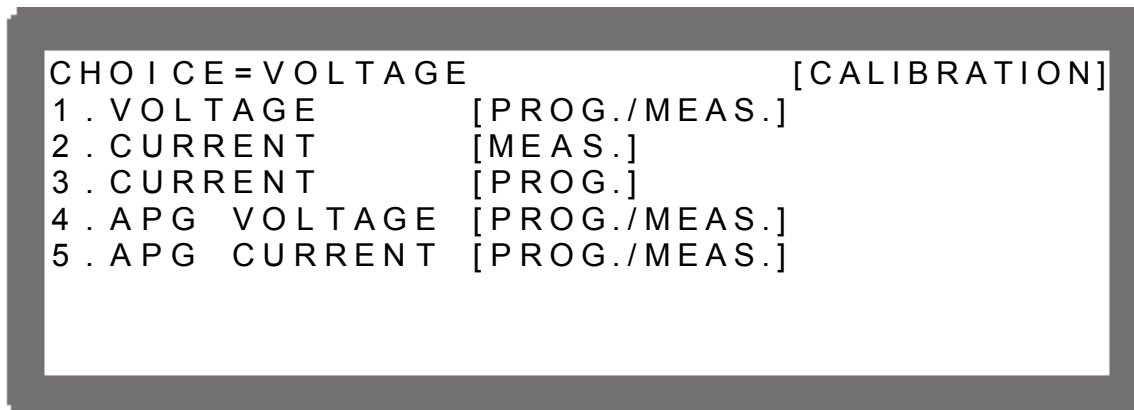

Figure 3-98
3. Enter the password and press “” to confirm. The screen will display 4 calibration options as Figure 3-98 shows. The calibration steps are described from section 3.3.7.1 to 3.3.7.5.
- (1) Enter into the page of Figure 3-98.
- (2) In CALIBRATION page, press “1” or turn “Rotary” (⊙) knob to set CHOICE=1.